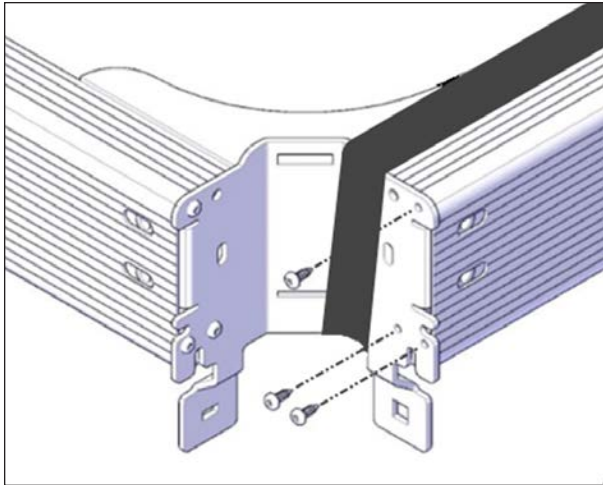

FIGURE 44: FASTEN CORNERS
9. On both corners of the assembly, install the Robertson sheet metal #8 x 3/4 in. screws on the inside holes of the side C-channels see Figure 44.